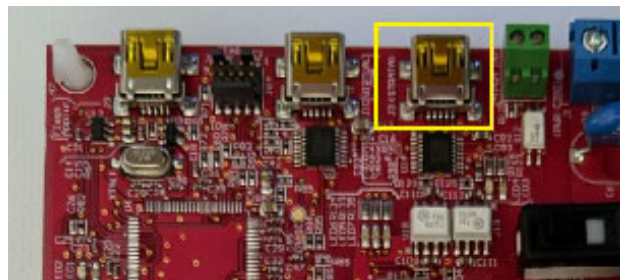

Figure 9. ECS640A EVB USB Connector (J3)
Step 7: Connect ECS640A EVB J3 serial communication connector to the laptop USB port using the USB cable provided in the ECS640A EVB box. See J3 connector details in Figure 9.